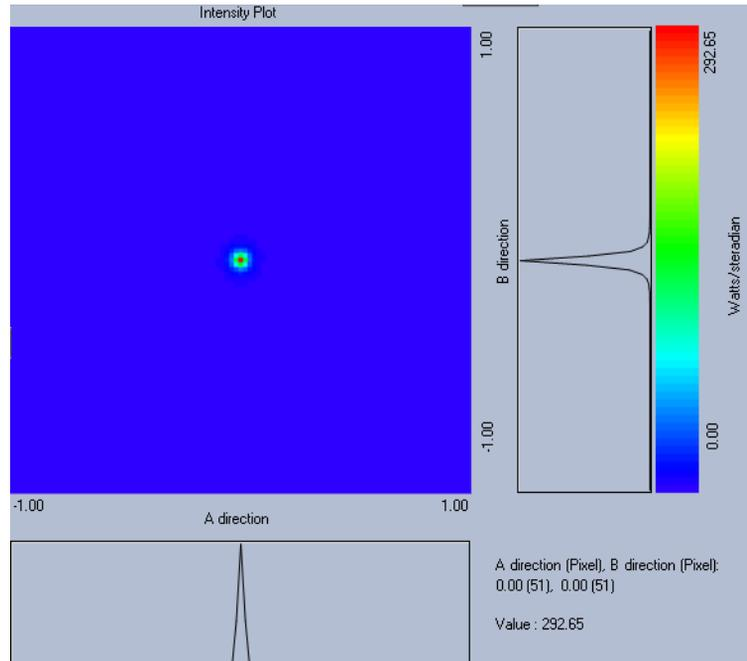

Figure 93 Intensity Plot in direction cosine space
- 19 Click  to start the intensity calculation in direction cosine space. Figure 93.